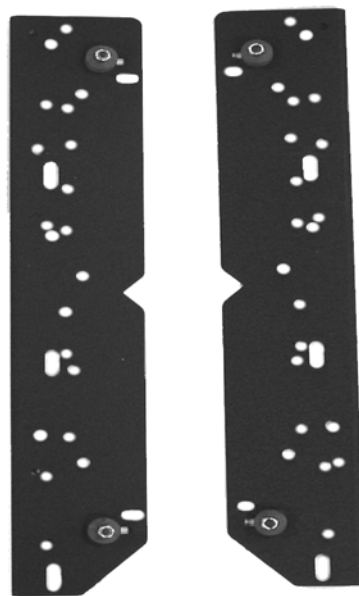

Figure 1. Brackets
- Carefully inspect the interface brackets (see Figure 1) for shipping damage. If any damage is apparent, call your carrier claims agent and do not continue with the installation until the carrier has reviewed the damage.